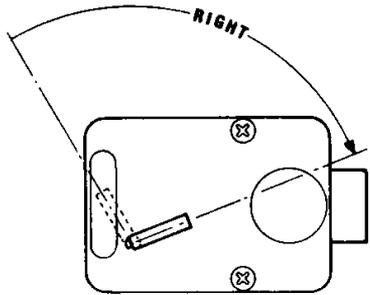

Figure 1
2. With the last number set at the changing index, hold the dial securely and insert the change key in the keyhole in the back of the lock. Make sure the wing is entirely inside the lock and comes to a positive stop (see Figure 1) before turning the key.
6. Turn the dial to the **LEFT**, stopping when the third number is aligned with the **CHANGE** Index, the **SECOND** time. Holding the dial in this position, turn the change key back to the **LEFT** and remove it. (See Figure 1.) The new combination you have chosen is now set in the lock,